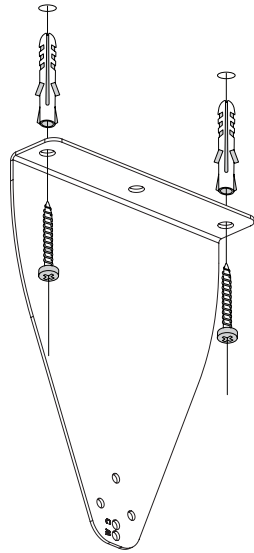

Fig.3
2. Mount the two brackets. Fig.3.